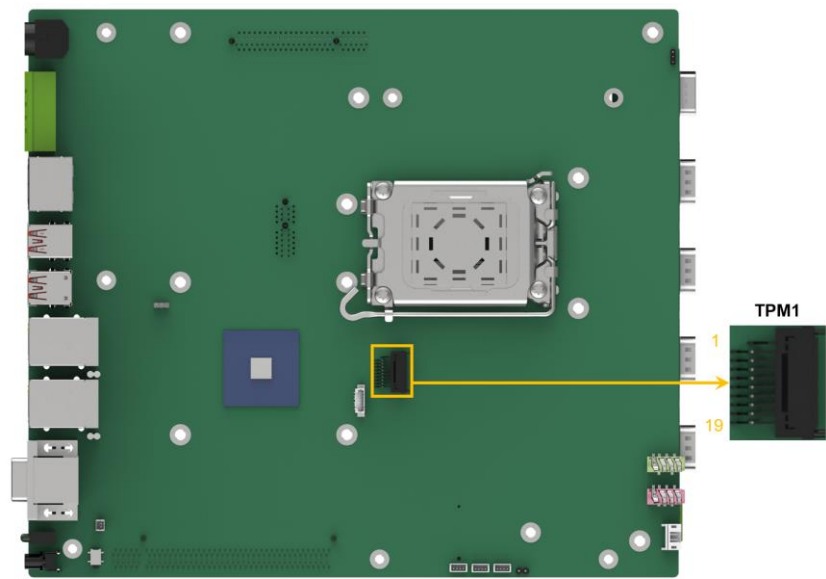

Figure 4-9: TPM Connector Location
- CN Location: See **Figure 4-9**